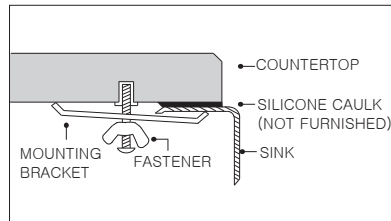

Figure 2
- B. Reveal mount: Sink rim is exposed approximately 1/4" from the edge of countertop opening. (Figure 2)